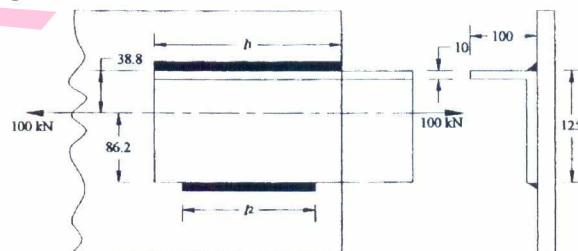

Fig.Q7(b)
- b. A $125 \times 100 \times 10 \text{ mm}$ unequal leg angle section is to be welded to a steel plate by fillet welds along the edges of the 125 mm leg as shown in Fig.Q7(b). The angle is subjected to a tensile load of 100 kN passing through the center of gravity of angle. Determine the weld lengths if the size of the weld is 8 mm and allowable shear stress in the weld is 102 MN/m^2 . All dimensions in the figure are in mm.